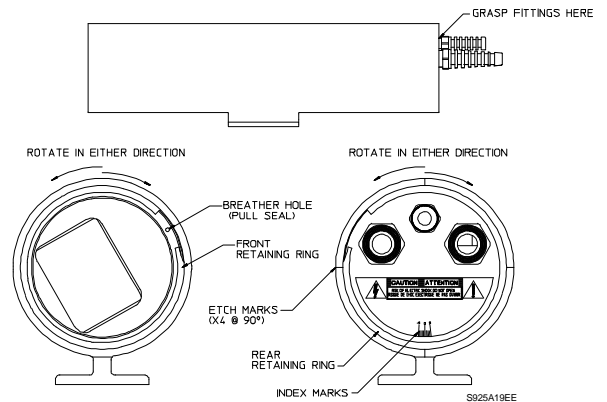

Figure 27: Rotating Cradle Assembly
4. Attach the housing to the appropriate mount or pan/tilt using instructions provided. According to the orientation of the housing, the cradle assembly may need rotating. To rotate the cradle assembly (while mounted), grasp the fittings and rotate to the desired position using the index marks as reference. View the monitor while rotating. See **Figure 27**.